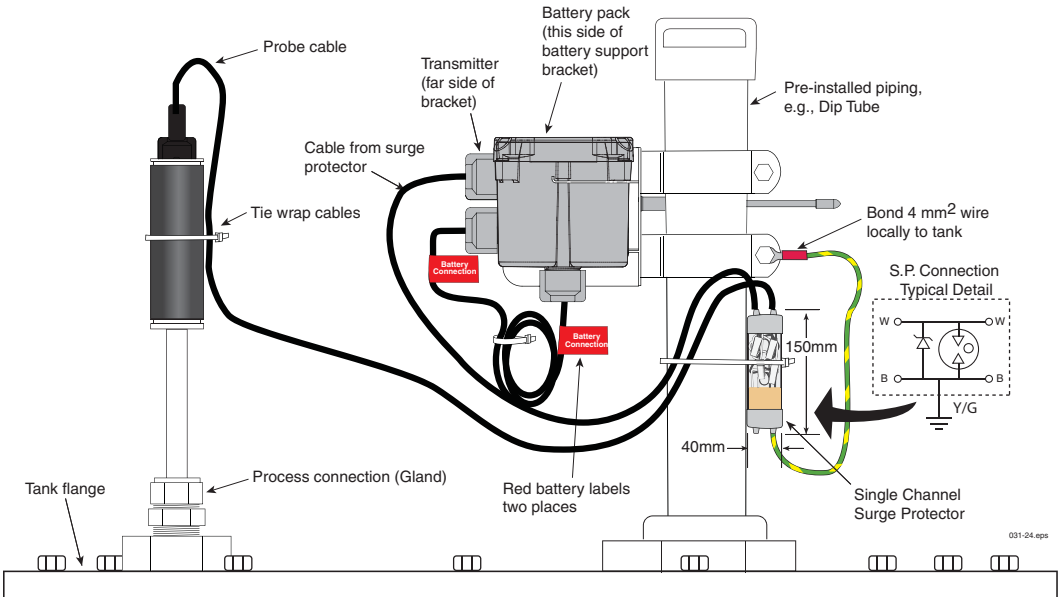

Figure 24. Example Wireless Installation With Process Connection And Single Channel Surge Protector
When surge protection is required, mount the surge protector as close as possible to the entry point for the probe leader cable. The surge protector is not polarity sensitive so either cable port may be used for the probe leader cable. Use the cable port on the opposite side for the wiring coming from the ATG Console. Inside the surge protector, one side of each spark gap device is wired to the metal enclosure. Use a bonding strap, with a minimum size of 4 sq. mm, to wire the enclosure to the tank structure using the external potential equalization (PE) terminal. Connect the wires from each cable as shown in Figure 24.